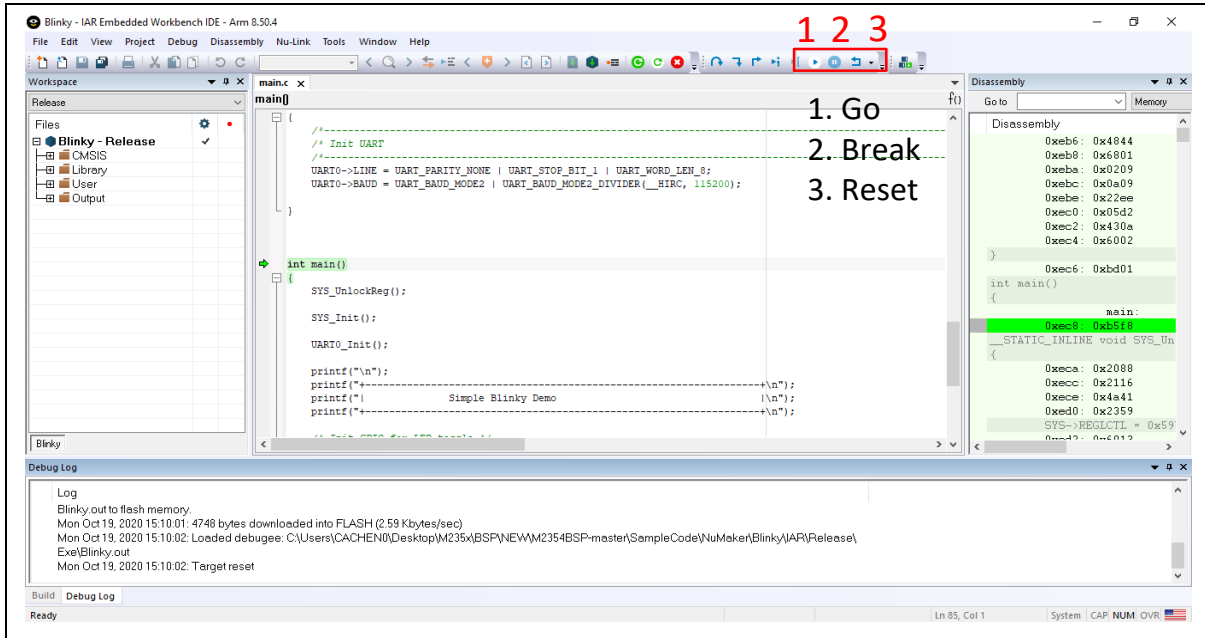
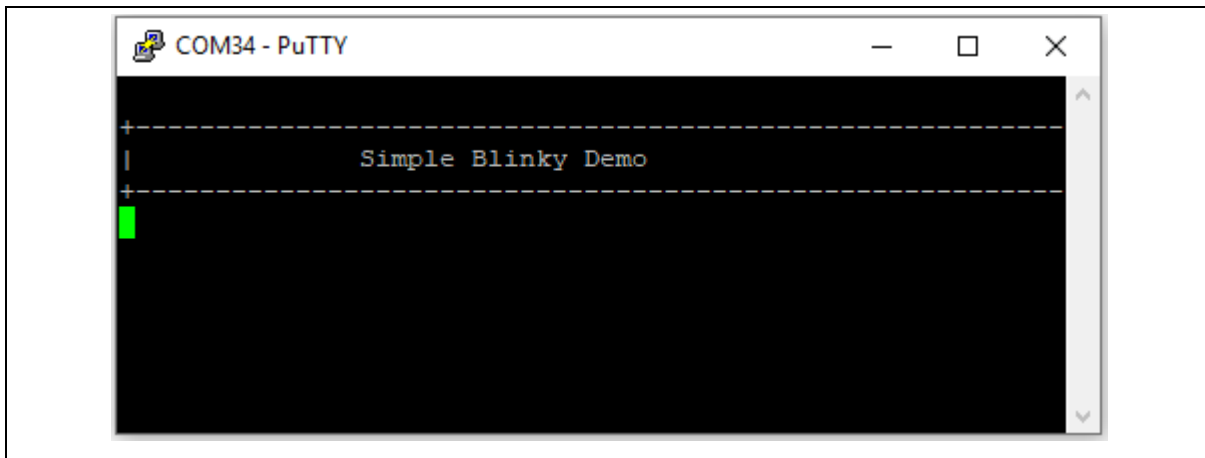

Figure 4-15 IAR EWARM Debug Mode
Figure 4-16 Debug Message on Serial Port Terminal Windows
- Figure 4-15 shows the debug mode under IAR EWARN. Click “Go” and the debug message will be printed out as shown in Figure 4-16. The project can be debugged under debug mode by checking source code, assembly language, peripherals’ registers, and setting breakpoint, step run, value monitor, etc.